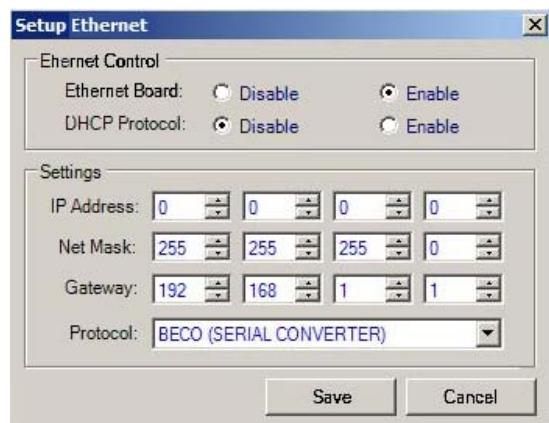

Figure 4-9 Setup Ethernet Screen
1. From the IPScom Main Screen menu select **Tools/Ethernet Setup**. IPScom will display the Setup Ethernet screen (Figure 4-9).
1. From the IPScm Main Screen menu select **Tools/Ethernet Setup**. IPScm will display the Ethernet Setup screen (Figure 4-9).